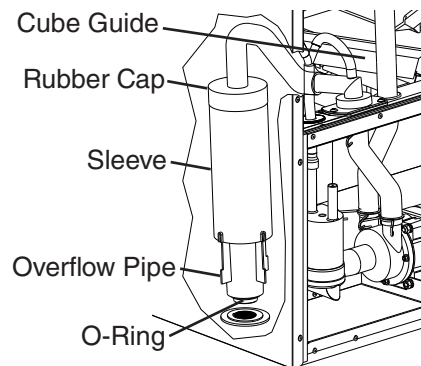

Fig. 17
14c)(2) Remove the rubber cap and sleeve covering the overflow pipe. See Fig. 17.